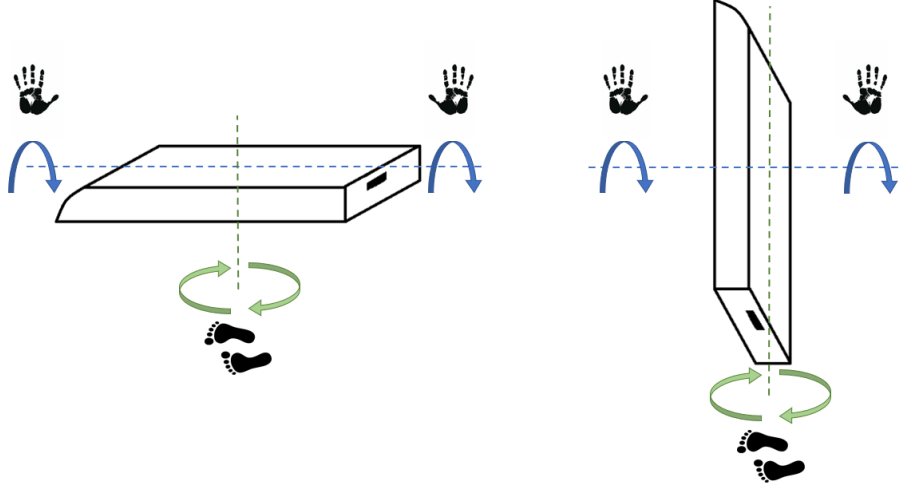

Figure 2: calibration movement: first and second movements described.
1. Rotate the sensor around the longitudinal axis and in the meantime rotate yourself on your feet, by keeping the sensor on your hand horizontally (hold the sensor horizontally with the wide base downwards or upwards, and rotate it around an imaginary transversal axis that goes from one of your hand to the other hand). Refer to the left image of fig.2.
2. Repeat the same procedure around the transversal axis (hold the sensor vertically with the wide base in front of you, and rotate it around an imaginary transversal axis that goes from one of your hand to the other hand). Refer to the right image of fig.2.